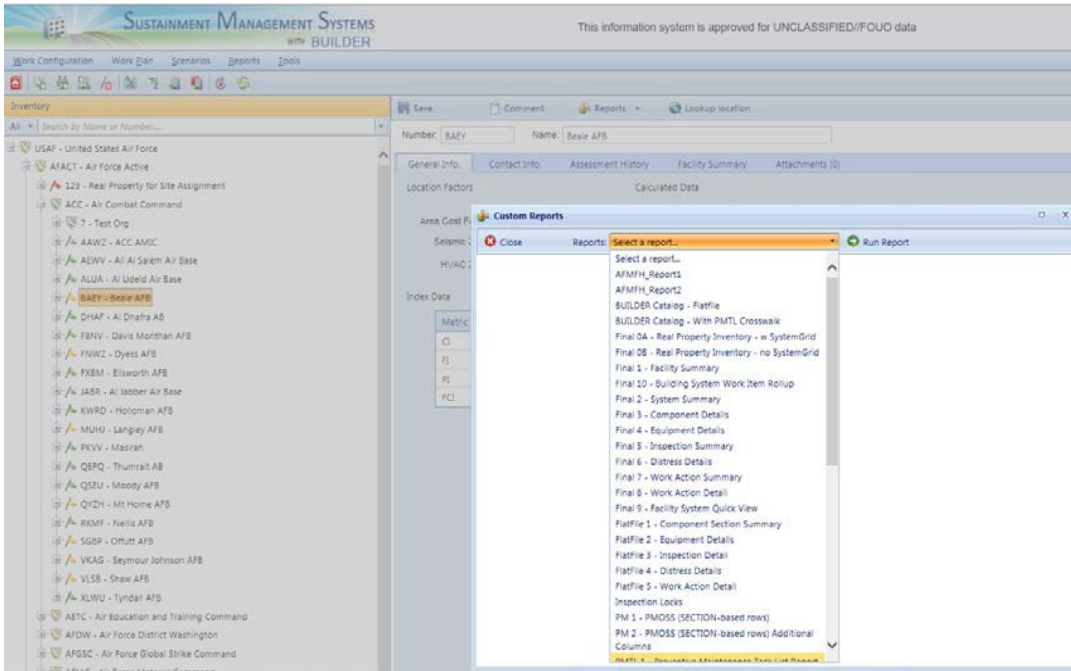

Figure 2: List of Custom Reports (Example showing Custom Reports available at the Site Name level).
2. Figure 2: List of Custom Reports
That is, if a user has selected a SITE within the BUILDER Inventory hierarchy tree and then chooses the Custom Reports menu, the drop-down menu (see Figure 2) will display a list of SITE level reports. This drop-down menu may offer considerably different choices if a user had selected an ORGANIZATION, COMPLEX or BUILDING level.